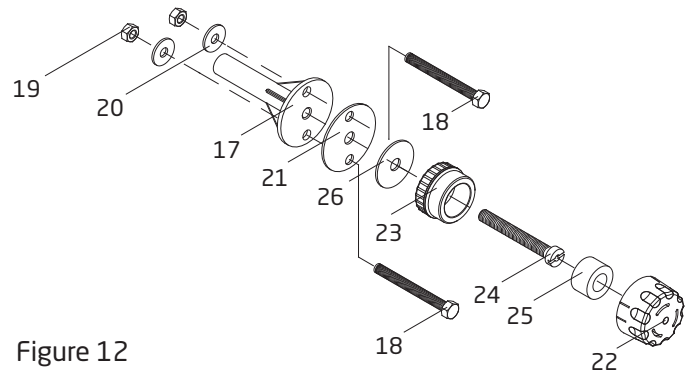

Figure 12
D. Install the hose ring (part #25) and snap the top part of the air regulator (part #22) into place. See Figure 12 for air regulator assembly.